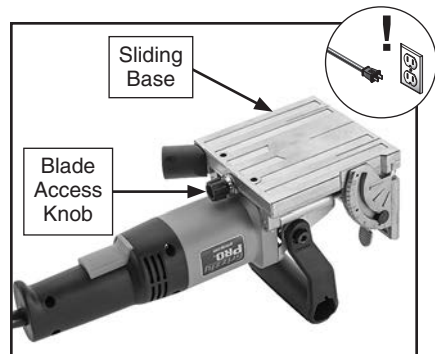

Figure 20. Loosening blade access knob.
4. Loosen blade access knob (see Figure 20) until the sliding base lid can be raised.